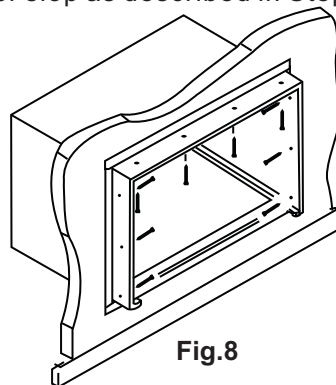

Fig.8
5. Screw or nail cabinet wooden frame using shims if frame is oversized, to eliminate distortion. See Fig.8. Remember to maintain proper slop as described in Step 3.